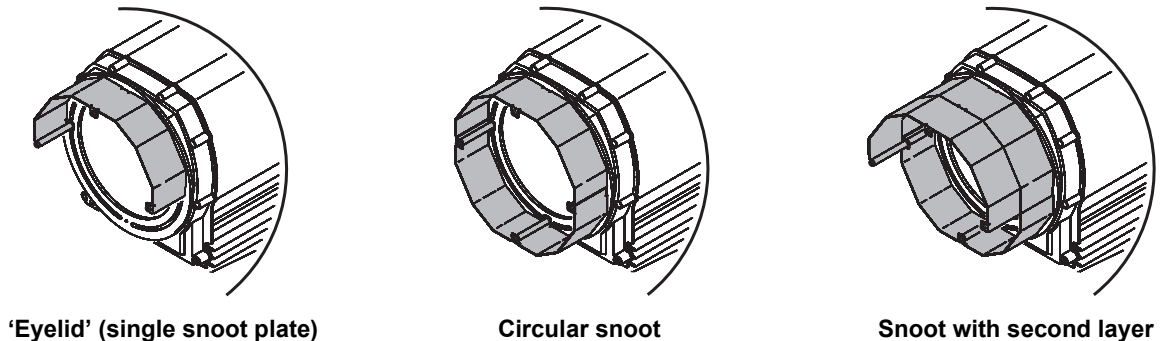

Figure 4: Snoot configurations
See Figure 4. Snoot plates can be added applying the following principles:
- When mounting two snoot plates in a ring to give a circular snoot (see Figure 4), use four studs **E** and four spacers **D**.